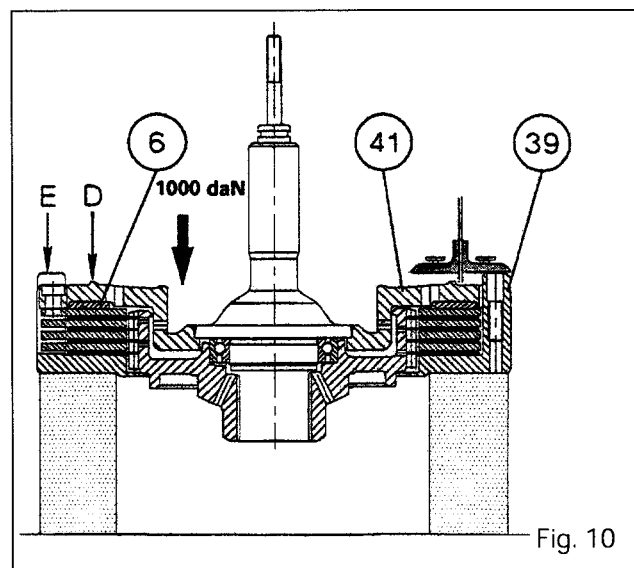

Fig. 10
47. Mount pressure plate (41) assembled in box (39) (Fig. 10).
49. Using the service tool Nr. 3378053M1, compress the progressive washer (6) under a load of 1000 daN (Fig. 10).
50. Measure the distance between two diametrically opposed locations on D and E faces (Fig. 10). Compute both readings average (Belleville springs (4) outer diameter contacts D face).